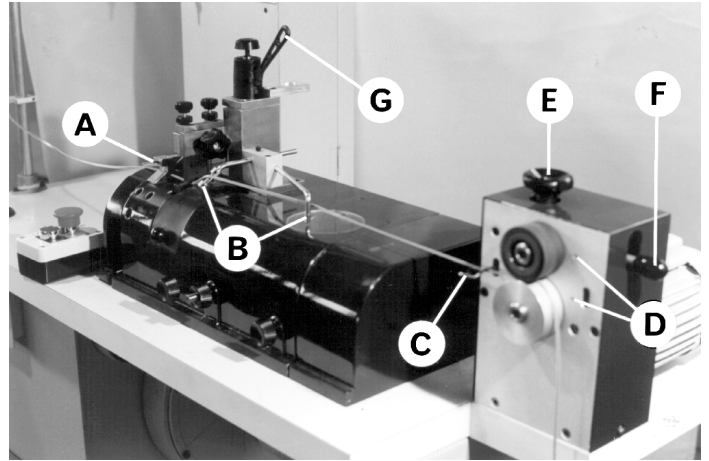

Fig. 4 - Strip passage
- If the "START" lamp is also lit up, the machine is ready for work, and as soon as the sensor is triggered by the strip entering the machine, skiving will begin (Fig. 4- C).
This points out any strip breakage between the blade and the transport rollers (Fig. 4- C)
- raise the mobile part of the brake (Fig. 4 - A) and insert the strip
- raise the foot using the lever (Fig. 4 - G) pressing the small lever (Fig. 4 - G), open the foot and insert the strip in the slot, then release the lever and lower the guide foot.
- Pass the strip over the first stem and under the second (Fig. 4 - B)
- Raise the small lever (Fig. 4 - C) of the strip sensor to start up the conveyor rollers
- The scrapers (Fig. 4 - D) are equipped with special antistatic brushes to eliminate the electrostatic charge that is created with this type of leather, and that can cause problems with skiving.
- Raise the lever (Fig. 4 - F) to open the transport rollers manually, while the knob (Fig. 4 - E) sets the pressure between the two rollers. When turned in a clockwise direction the pressure is increased, and vice versa.
To lubricate the strips, fill the container attached to the foot support with a silicone oil. A felt pad on the brake (Fig. 4 - A) will spread a thin coat of oil on the strip on the machine.